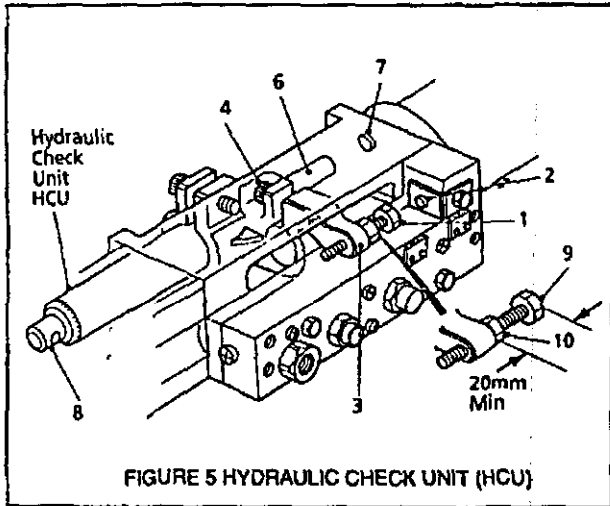

FIGURE 5 HYDRAULIC CHECK UNIT (HCU)
SETTING DRILLING OPERATION (See Figure 5)
Lock using Figure 5 (10).
The end of the tap MUST be at least 14mm (9/16in) above the test block, to allow for the tapping head reversing engagement travel. Set the gap between Figure 5 (2) and (1) to equal the tapping depth PLUS the distance the tap is above the work piece.